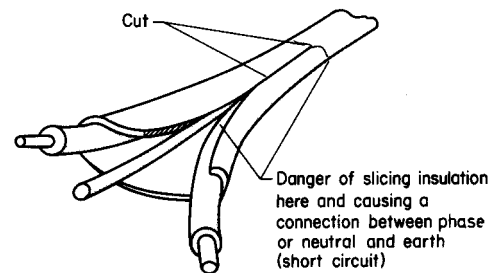

Fig. 14.11
- 1 Using a sharp knife, slice the cable lengthwise, open the cable up and cut off the sheath (Fig. 14.11).